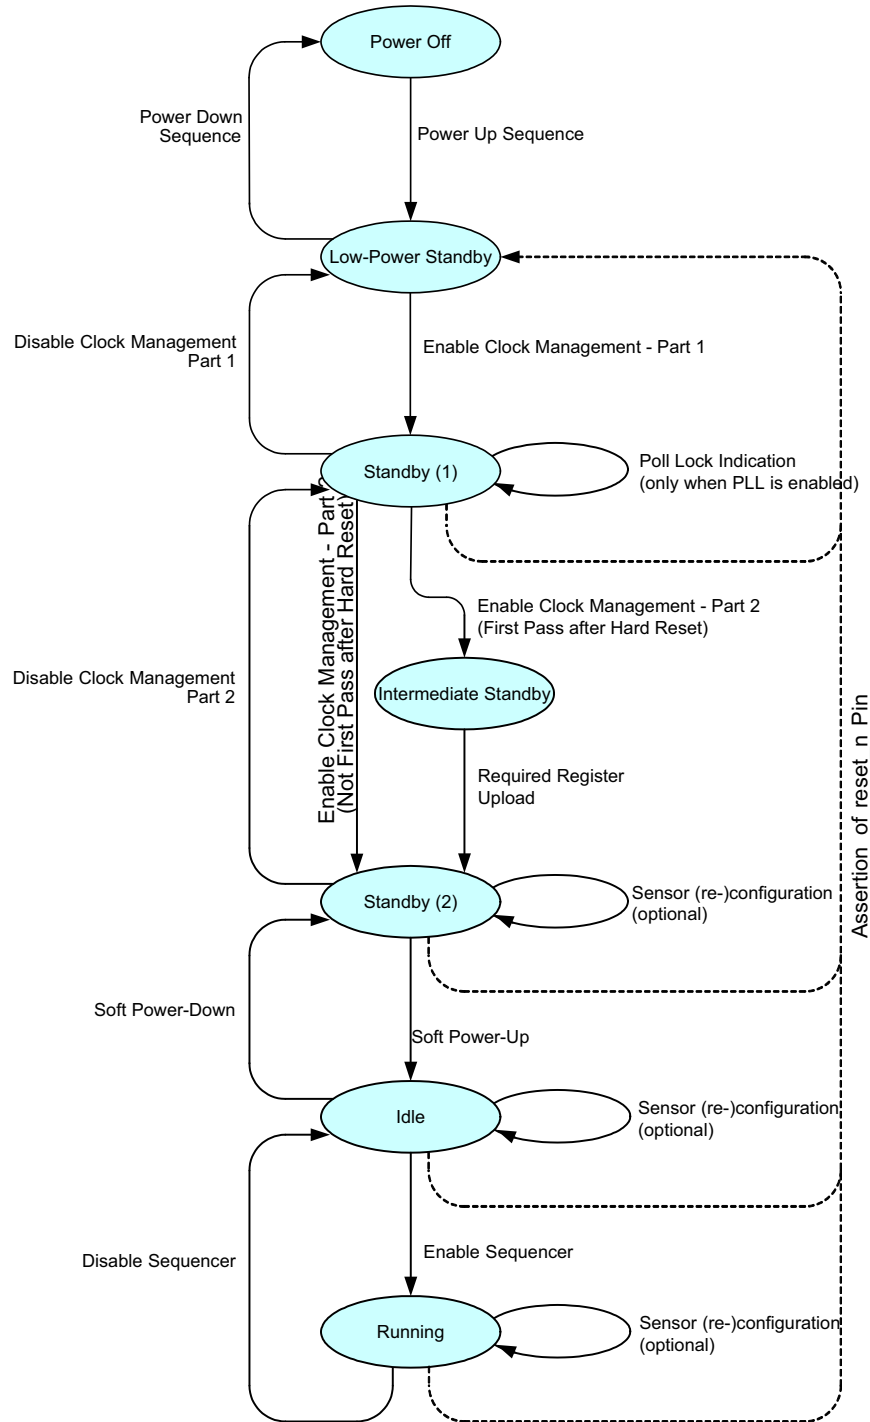

Figure 16. Sensor Operation Flowchart
Figure 16 shows the sensor operation flowchart. The sensor has six different ‘states’. Every state is indicated with the oval circle. These states are Power off, Low power standby, Standby (1), Standby (2), Idle, Running.
Check the PLL_lock flag 24[0] by reading the SPI register. When the flag is set, the ‘Enable Clock Management’ action can be continued. When PLL is not used, this step can be bypassed as shown in Figure 16 on page 16.